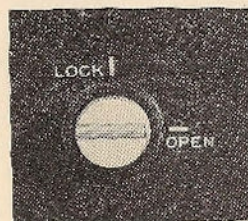
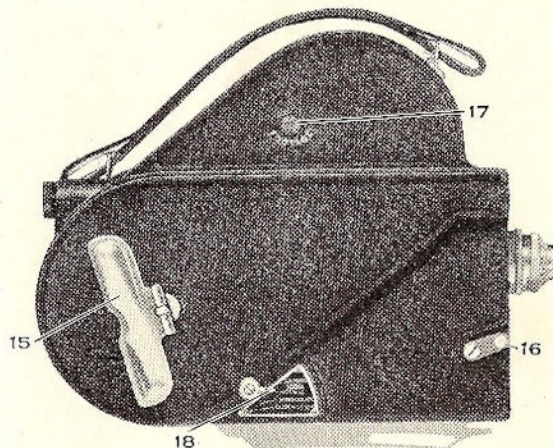

Fig. 1
Fig. 11
Remove the cover of the Ciné-Kodak, first unlocking it by turning the button in the center of the cover *clockwise* until the embossed ridge on the button is at the line marked OPEN, as shown in Fig. 1; then lift off the cover.
15 Winding Key	Used for winding motor, Fig. 11, page 15.
16 Exposure Lever	Starts and stops motor, Fig. 11, page 15.
18 Speed Indicator	Adjusts for speed: Normal, Intermediate, and Slow Motion, Fig. 11, page 15.
Give the winding key 15, Fig. 11, page 15, a few turns, and press down the exposure lever 16 to operate the Ciné-Kodak, see page 15. *Allow the motor to run for only a second or two, and watch the leader, closely.* While winding the spring and operating the camera with the cover removed, be careful to hold the camera so that the take-up spool will not come off the spindle. If the leader is running properly and loops are maintained, stop the motor and immediately replace the cover and fasten it by turning the button in the center of the cover, Fig. 1, page 3, until the embossed ridge on the button is at the line marked LOCK.
When the film meter 17, Fig. 11, reads "O" (or when the "O" appears on the scale inside of the finder) no more pictures should be taken, as the remaining film acts as a protection when the exposed film is removed from the camera. Run the motor until the word EMPTY appears, before removing the cover of the Ciné-Kodak to unload it.
The motor of the Ciné-Kodak, Model E, can be operated at three different speeds: NORMAL, INTERMEDIATE and SLOW MOTION. For subjects where normal motion is desired, the speed indicator 18, Fig. 11, should be at NORMAL. To change the camera speed, move the indicator to the speed required. With the indicator at INTERMEDIATE the motion of
To wind the motor of the Ciné-Kodak, Model E, raise and turn the winding key 15, Fig. 11, on the side of the camera. Wind up the spring by turning the key to the right or clockwise. Give it about 27 half-turns or until the spring is wound tight. Before winding the spring, be sure that the exposure lever 16 is up, as shown in Fig. 11.
To start the motor after the spring is wound, press the exposure lever 16, Fig. 11, about half way. To stop the motor, release the pressure.
If the operator wishes to be included in the picture, place the camera on a tripod (it has a socket for this purpose) or some level, steady, firm support. Press the exposure lever 16, Fig. 11, page 15, *as far as it will go*, when it will lock in position, and step into the picture area. To stop the motor, step out of the picture area, return to the camera and push up the lever.
When it is desired to have the motion of the subjects somewhat slower than normal, set the speed indicator 18, Fig. 11, page 15, at INTERMEDIATE. When operating the camera at this speed it will be necessary to use the *next larger* diaphragm opening than the one given on the exposure scale on the camera or the exposure table on page 20 for the specified light condition.
For real slow-motion effects, set the speed indicator 18, Fig. 11, page 15, at SLOW MOTION. With the speed indicator at SLOW MOTION and the exposure lever pressed down, the motor runs at about *four times* the normal speed, exposing about sixty-four frames or individual snapshots per second, instead of sixteen.
Important: When through using camera speed INTERMEDIATE or SLOW MOTION, it is advisable to reset the speed indicator 18, Fig. 11, page 15 to NORMAL; this will leave the camera adjusted for making pictures at normal speed. *The Ciné-Kodak should not be operated at SLOW MOTION unless exposing film.*
With the Ciné-Kodak, Model E, exposures are governed by the diaphragm and by the camera speed indicator 18, Fig. 11, page 15. The diaphragm, located between the front and rear components of the lens, is a device which controls the amount of light passing through the lens. When we speak of "diaphragm value or opening" we mean the size of the aperture in the diaphragm through which light may pass and reach the film.